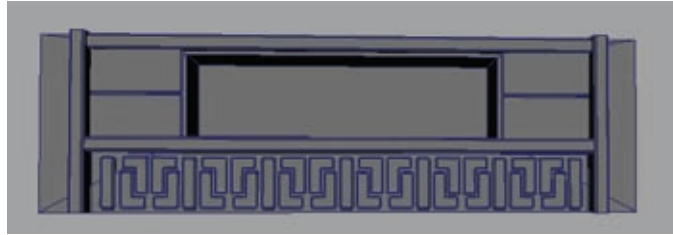

Figure 5.21
9. Ungroup the two shapes and select all four L-shaped objects. Group all four together and duplicate them a few times. Move each duplicate to the right so that the shapes fill up the space. If you have any space left over, you can create a few vertical, beveled blocks to go in between, like in Figure 5.21.